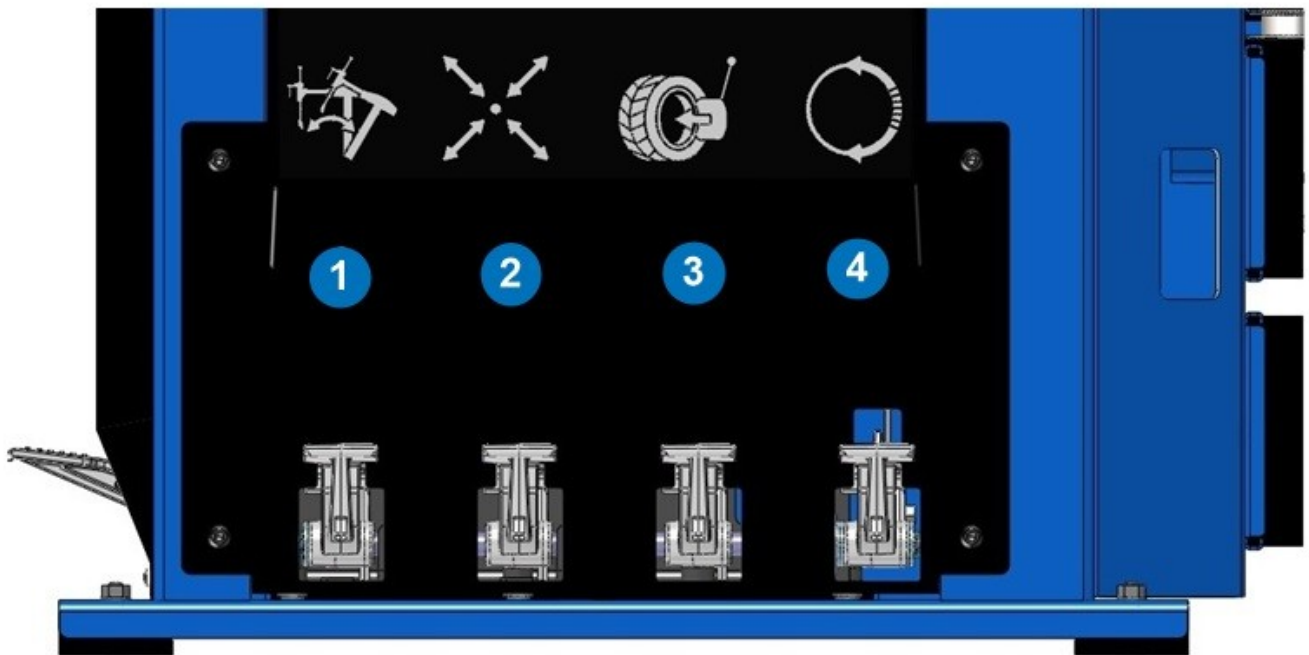

Fig. 3. Control pedals.
Column tilting pedal (fig. 3 pos. 1)
Wheel clamping pedal (fig. 3 pos. 2) opens and closes the table jaws.
Bead-breaker pedal (fig. 3 pos. 3)
Table rotation pedal (fig. 3 pos. 4)
- Holding the blade in the right position press pedal 3 (fig. 3 item 3) and hold it until the tyre slides off the rim edge. If necessary repeat this operation in several places around the circumference of the wheel.
- Use pedal 1 (fig. 3 item 1) to tilt the column backwards.
- Use pedal 2 (fig. 3 item 2) to open the table jaws (pedal in middle and lower position).
- Pressing the pedal 4 (fig.3 item 4) turn the table to the right until the upper bead is removed from the rim. If abnormalities occur when removing the tyre, such as jamming, release the pedal and then lift it up. The table will then rotate to the left and release the jammed tyre.
- Use pedal 1 (fig. 3 item 1) to tilt the column back and remove the tyre.